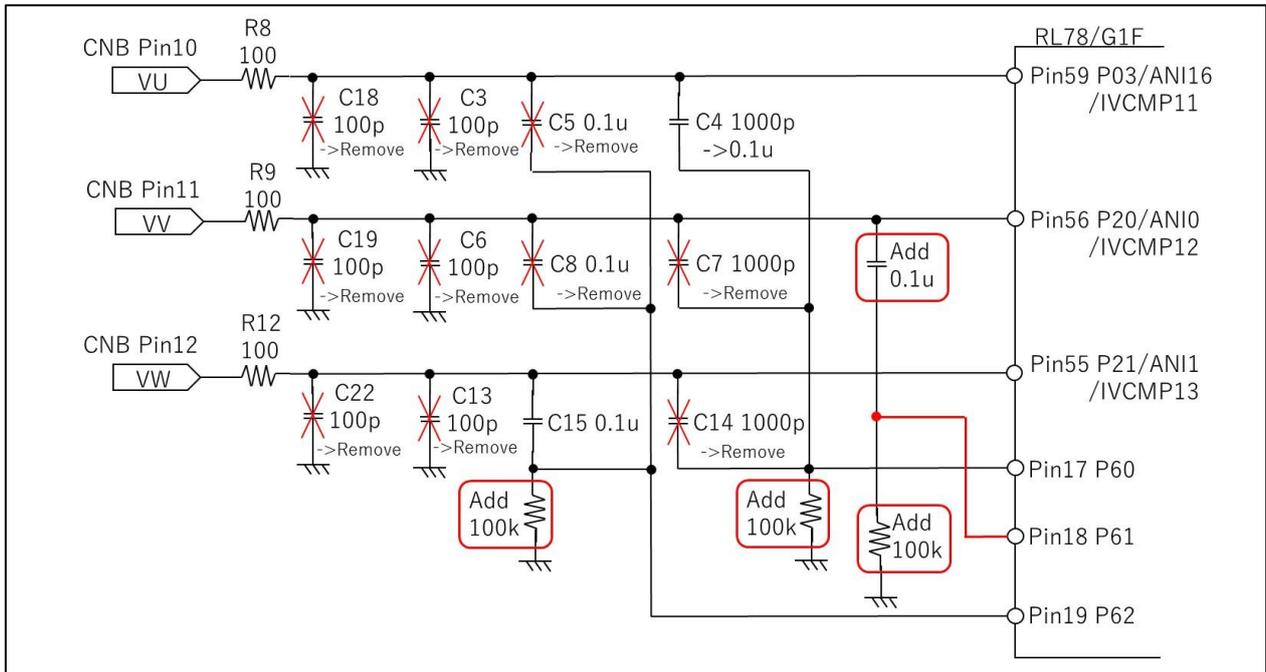

Figure 1-3 Modification of CPU card (T5103)
- III. Add the circuits which are explained by red items in below Figure 1-3.